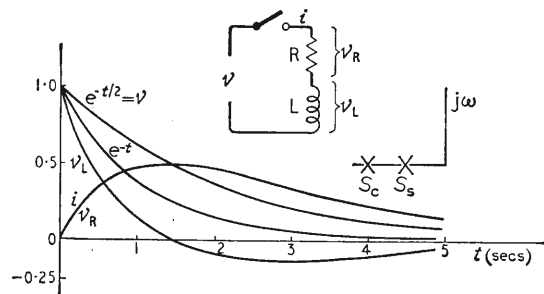

Fig. 8. Curves of excitation and response of a series RL circuit to a Fig. 2 source having half the "frequency."
It is quite interesting to plot the responses (3) and (5). For simplicity let us choose $R = L = T = 1$, so $s_c = -1$. And for a source voltage of Fig. 2 form but different complex frequency let $s_s = -\frac{1}{2}$; this puts the source pole half-way between the origin and the circuit pole. In other words, the forced response takes twice as long to die away as the free response. In Fig. 8 this form, v , is shown, and also e^{-t} for comparison. The total response, i , is plotted from (3); it starts from zero because the free and forced responses exactly cancel out when $t = 0$. Since $R = 1$, the same curve does for v_R , the voltage across R . That is an example of economy of effort. Since v_L , the voltage across L , is what is left, it is plotted by subtracting v_R from v , with the result shown. Note that it becomes negative, owing to the inertia effect of L , so that after 1.4 seconds the voltage across R is actually greater than that provided by the source.